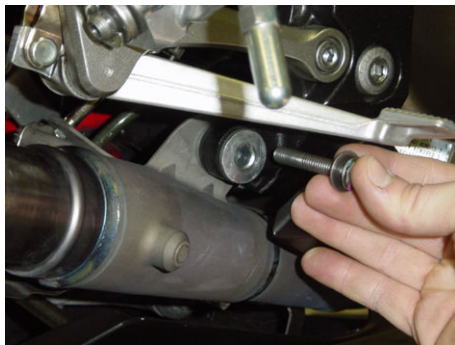

Figure 3
1. remove the bolt from the collector metal bracket and install the additional metal bracket for attaching the spring **(Figure 3, 4, 5)**